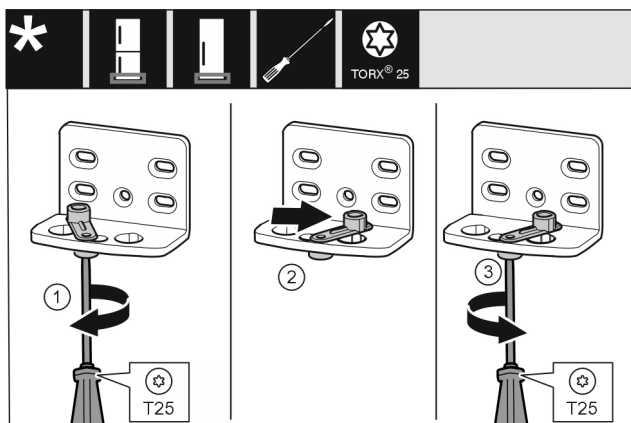

Fig. 12
- ▶ Use screwdriver to loosen the screw Fig. 12 (1).
- ▶ Lift the door closing aid Fig. 12 (2) and turn 90° clockwise in the hole.
- ▶ Tighten screw Fig. 12 (3) with screwdriver.